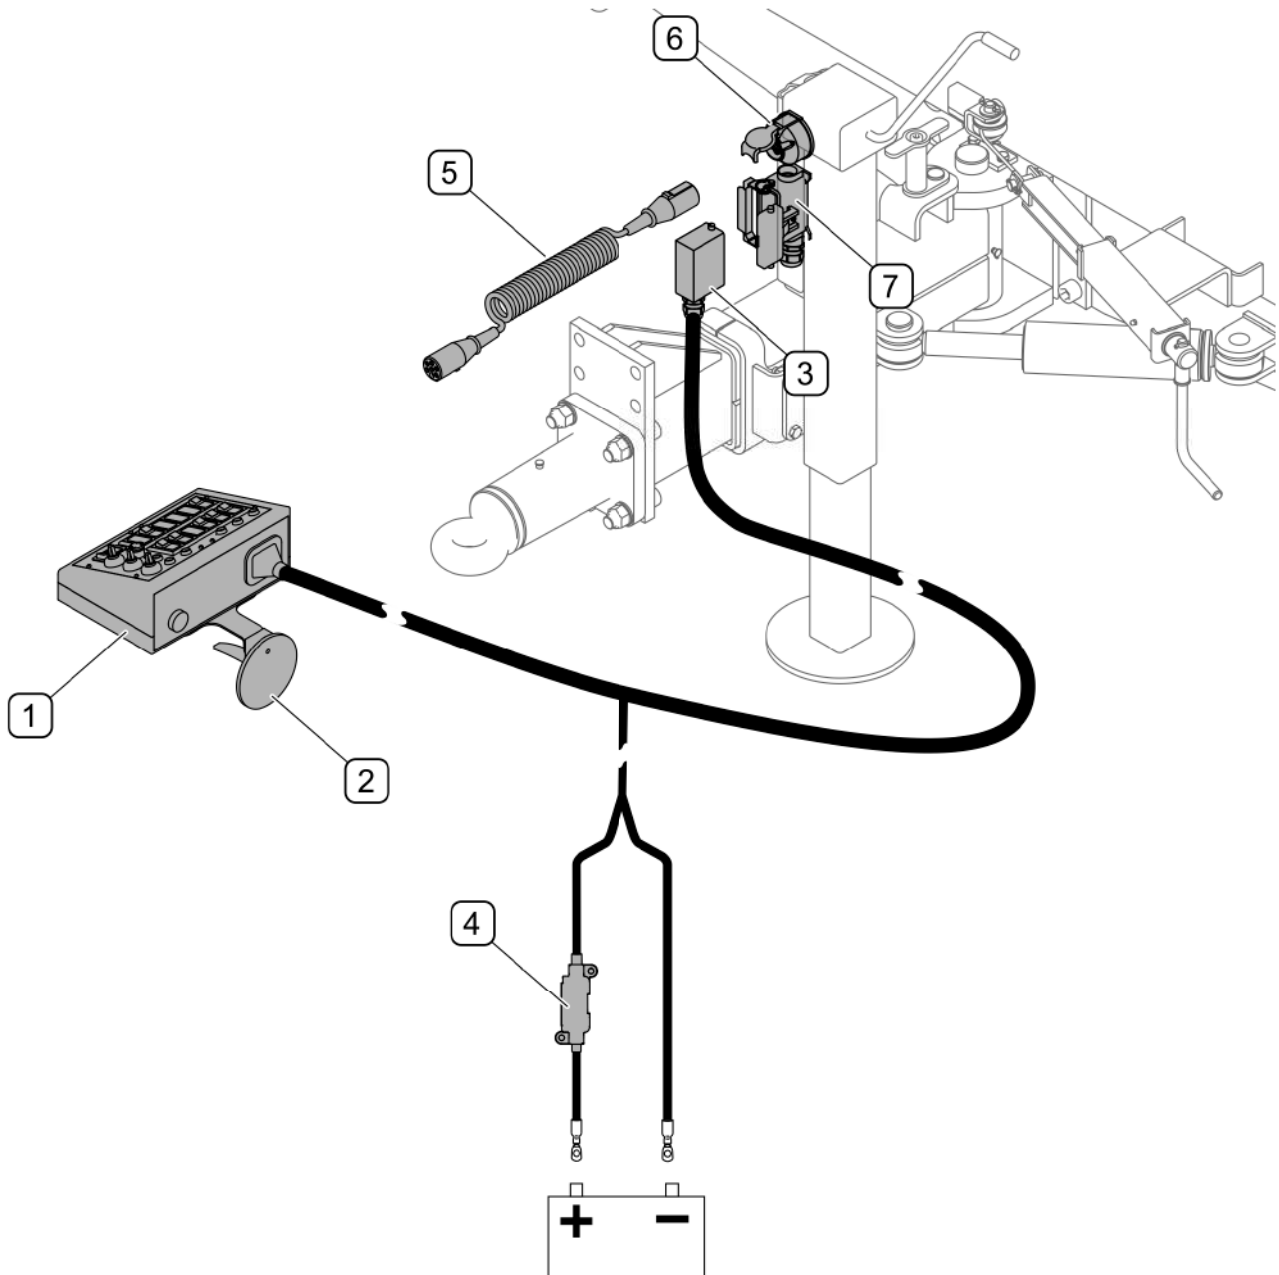

FIG. 4.4 Connecting electrical system
(1) - control panel; (2) - securing suction pad; (3) - plug; (4) - 50A fuse; (5) - connection lead; (6) - 7-pole socket; (7) - control system socket
Place the control panel (1) in the operator cab in an easily accessible place (FIG. 4.4). Control panel is equipped with vacuum cup (2) for attaching to the operator cab's windscreen. Connect red supply lead of the supply wiring harness to the positive end of the tractor's battery (+) and black supply lead to the negative battery end (-). The supply wiring harness has a 50A fuse (4) on the supply lead (+). Connect plug (3) to socket (7) on the sweeper's hitch. Connect connection lead (5) to 7-pole socket (6) of the machine and tractor.